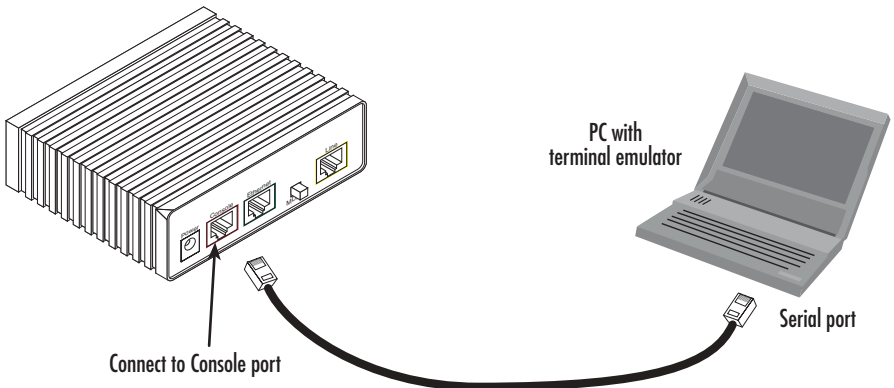

Figure 2. Connecting RocketLink™-G NTU to the PC's serial port
- Using the included combination RS232/Ethernet cable and DB9-RJ45 adapter, connect a PC's serial port to the RocketLink-G's *Console* port (red outline) (see figure 2).